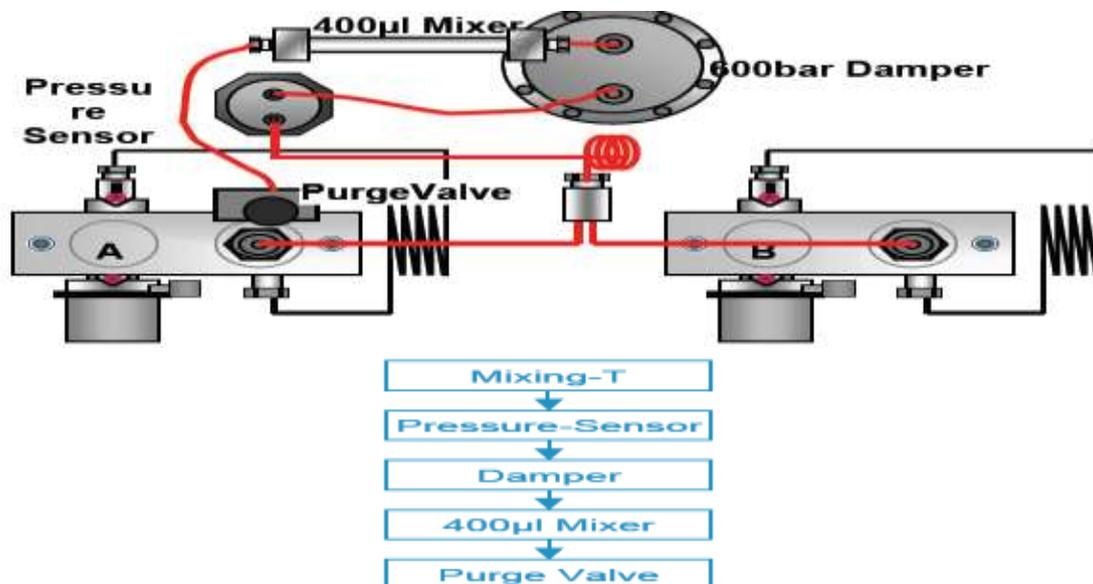

Figure 5 Standard delay volume configuration for 3 and 4.6 mm ID columns with highest UV sensitivity.
- For 4.6 mm inner diameter columns the standard delay configuration should be used, see Figure 5.